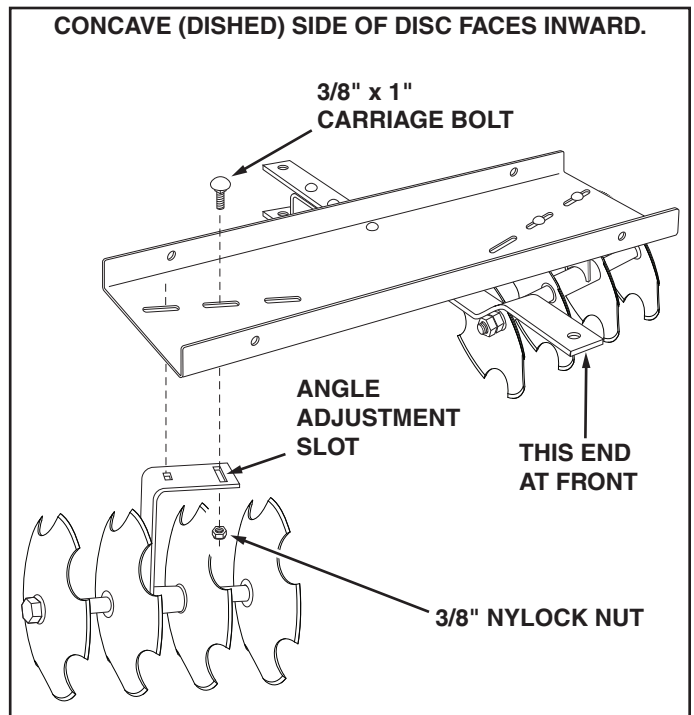

FIGURE 6
6. Assemble the disc assemblies to the **outer** slots in the tray using four 3/8" x 1" carriage bolts and 3/8" nylock nuts. Swivel the disc assemblies so that the carriage bolt is centered in the angle adjustment slot. This places the discs at the standard 15 degree angle. **Tighten.** See figure 6.